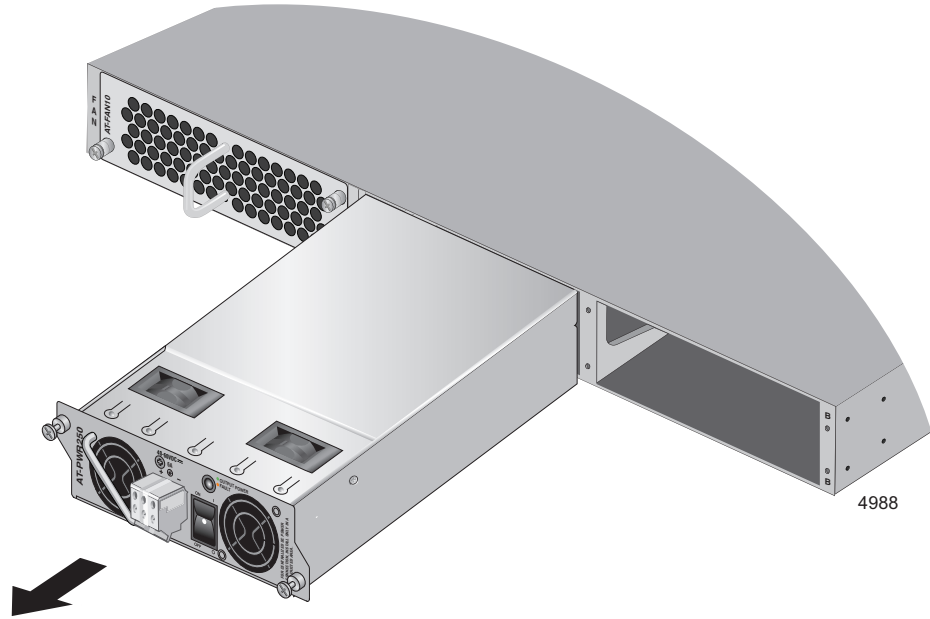

Figure 70. Removing a Power Supply
9. Carefully slide the power supply from the switch. Refer to Figure 70 on page 170.